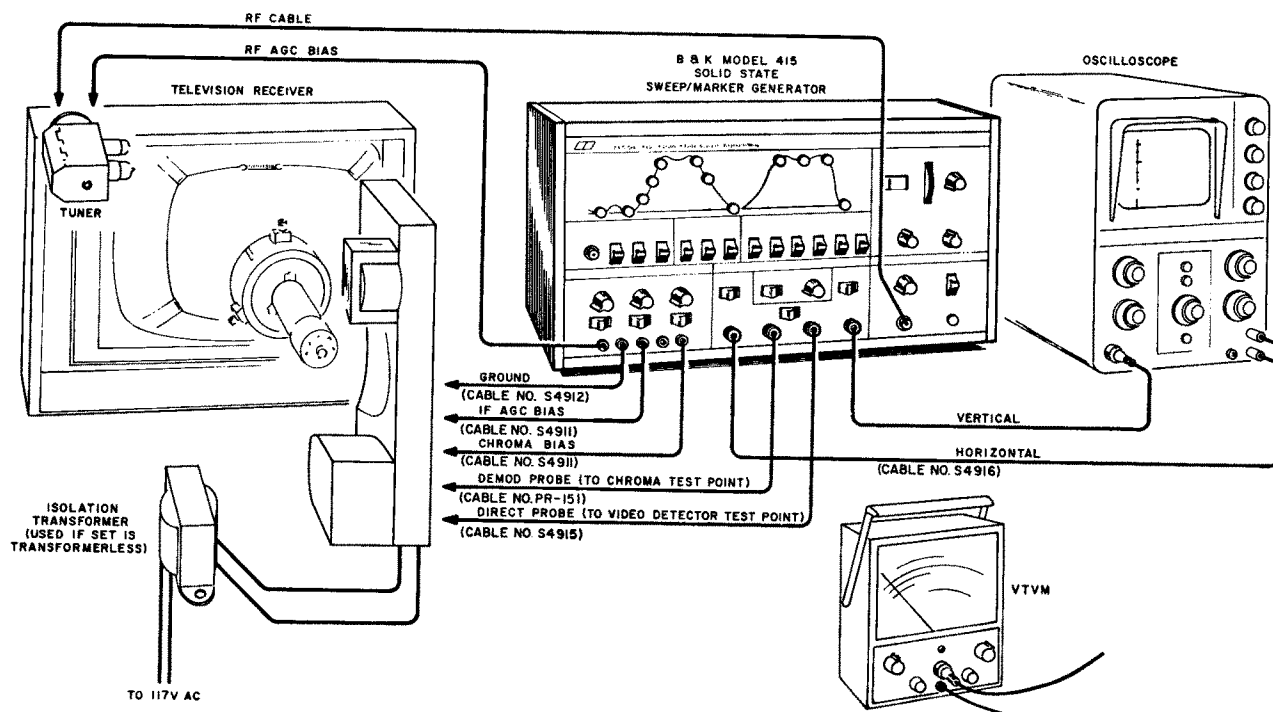

Figure 5.2 Equipment Interconnection
**ACCESSORIES**—The accessories used in the set-up of Figure 5.2 and in the alignment instructions to follow are shown in Figure 1.1 (Repeated). The cable numbers are shown in Figure 5.2.
The interconnection set-up of Figure 5.2 is typical of that required in alignment work and applies for all procedures outlined later in the manual. Because numerous references are made to this section and to Figure 5.2, the information is repeated at the end of the manual in fold-out form as a convenience to the user. Pertinent information from Section 5.3 will also be included. Proceed as follows:
(The test set-up of Figure 5.2 and the set-up instructions of Par. 5.2 apply for the following procedures.)